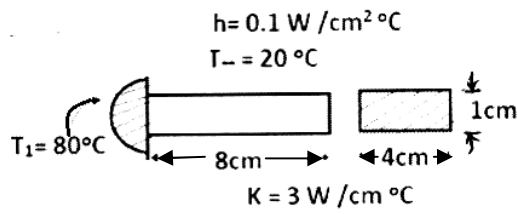

Fig. Q 10 (b)
- b. Calculate the temperature distribution in a one dimensional fin with the physical properties given in Fig. Q.10 (b). The fin is rectangular in shape and is 8 cm long, 4 cm wide and 1 cm thick. Assume that convection heat loss occurs from the fin. Model the fin by four elements. 14